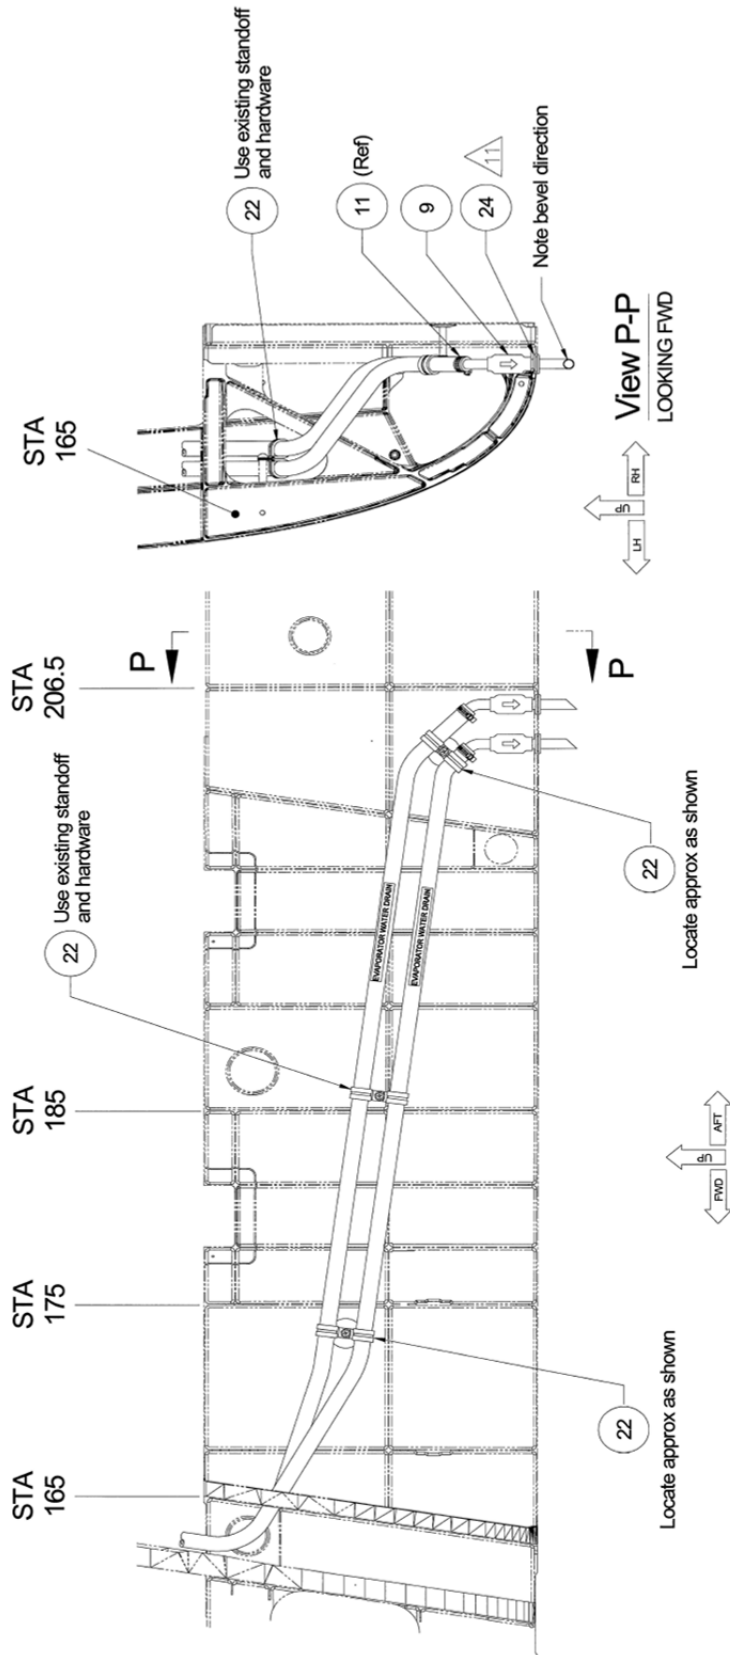

Figure 24: LH Aft Evaporator Drain Line Installation – View Looking Inboard, LH Side
- 6) Locate and install MS35489-149 (Item 24) grommet and P/N S-6552EC-1 (Item 9) check valve in lower left fuselage. (Figure 24)
FLAG NOTE 11 (Figure 24)